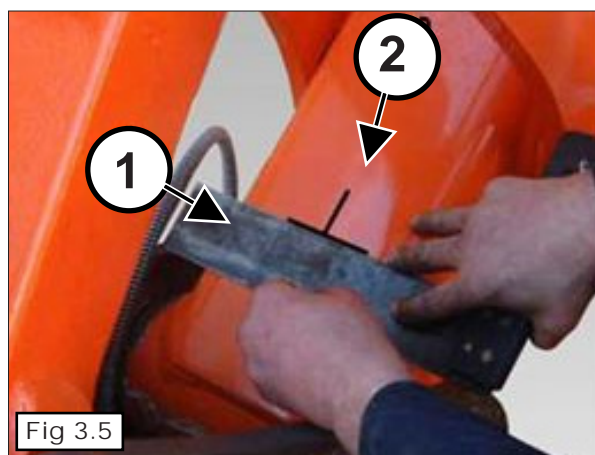

Fig 3.5
Place a straight edge square on the side of the dipper, place a mark at the top of the straight edge (1). Place a second mark (2) [Figure 3.5]. in the centre (left to right) of the dipper.